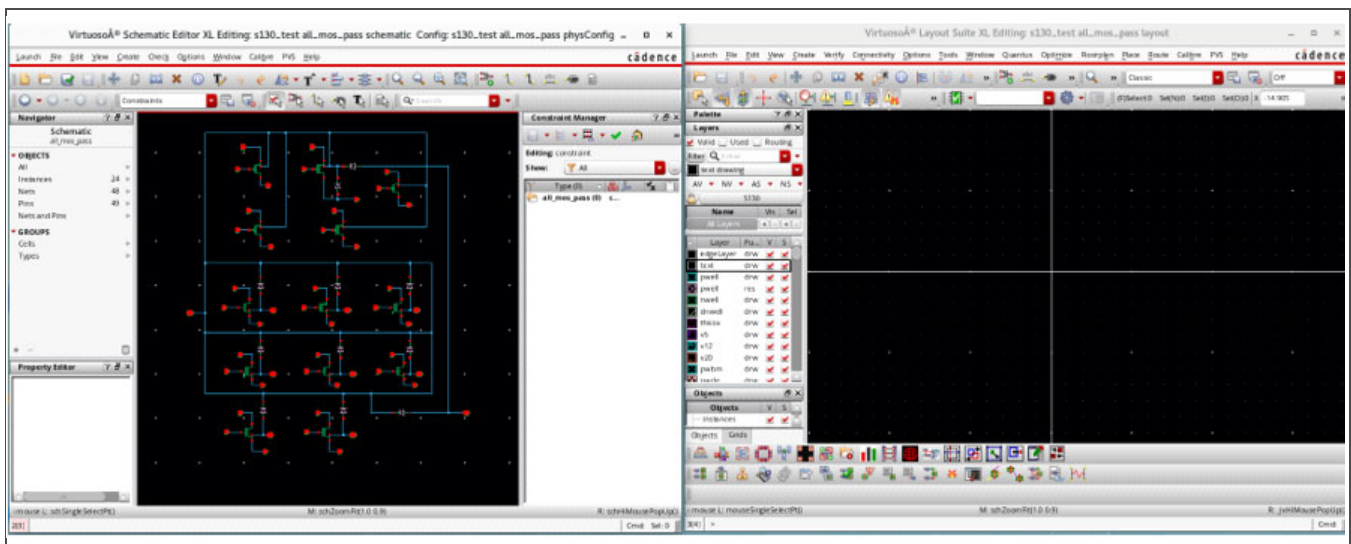

Figure 4-3. VXL Schematic Editor and Layout Suite Windows
- Click **OK** to proceed. A layout view opens in which the layout and schematic windows are arranged side by side, as shown in Figure 4-3.